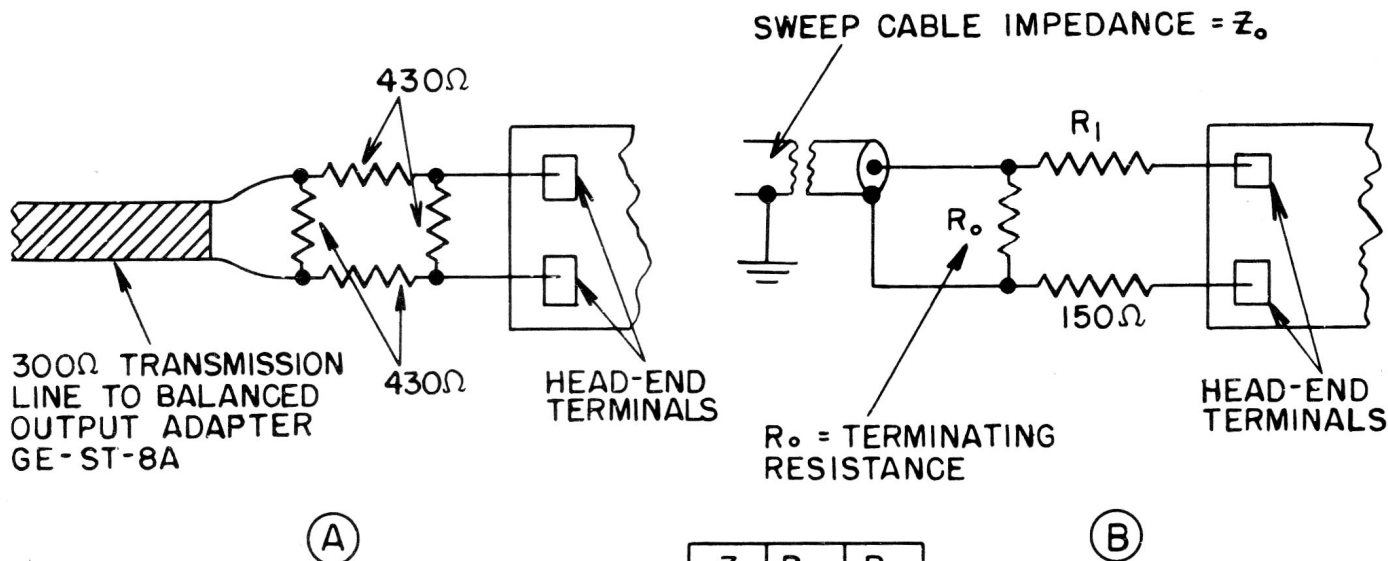

Fig. 28. Sweep Generator Termination
1. Disconnect the transmission line to the antenna from the head-end. Couple the input of the sweep generator to the head-end terminals through balanced output adapter G-E ST-8A, or equivalent. Couple this to the head-end terminals through a piece of 300-ohm transmission line. Terminate the 300 ohm line in a pad, as shown in Figure 28-A.
If a balanced output is not available for the sweep generator a matching network as shown in Figure 28-B may be used. A balanced output is recommended since a matching network as shown in Figure 28-B may introduce frequency shift and cause a misleading tilt to the response curve.
As shown in Figure 28-B is the terminating resistor. If this resistor is not already incorporated in the output of the sweep generator, it should be added to the matching network as shown.
1. Disconnect the 300 ohm line from the r-f head-end terminals and connect sweep generator to head-end properly terminating sweep generator output cable as shown in Figure 28-A or 28-B. See Note 1 of RF Alignment.